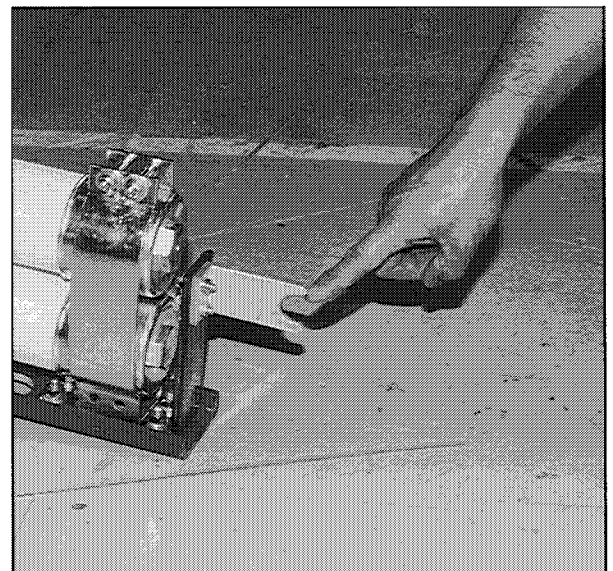

Fig. 52 Checking Stab on Power Fuse Cartridge
- ☐ Check the condition of the back stab terminals on the cartridge for any signs of damage or discoloration (Fig. 52). If there is any excessive build-up of dirt or other foreign material, wipe clean and relubricate with a light coat of Toshiba B8 grease, making sure that no grease gets